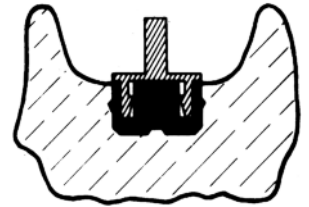

Fig. 12
1. In the operatory: Snap a black fabrication male onto the female of each abutment and make the final impression. Remove the fabrication males from the implant abutments. If the males are pulled in the impression, take them out of the impression. Snap the fabrication males onto overdenture processing jigs. Reposition this assembly in the imprint of the fabrication male in the impression (Fig. 12). Pour the processing model. The metal jigs will represent the implant abutment females.